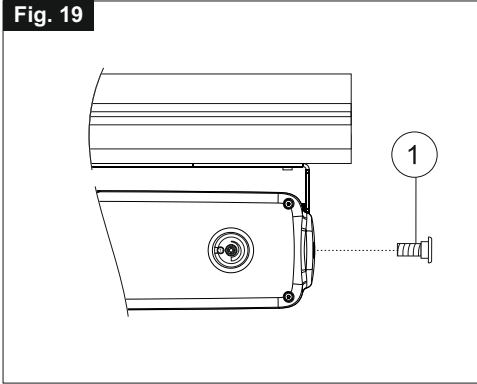

Fig. 20
- 9) **Fig. 20-** With an Allen wrench, adjust the opening stroke by means of a proper selector (**Ref. 1**) according to the table quoted in **Fig. 6a**;